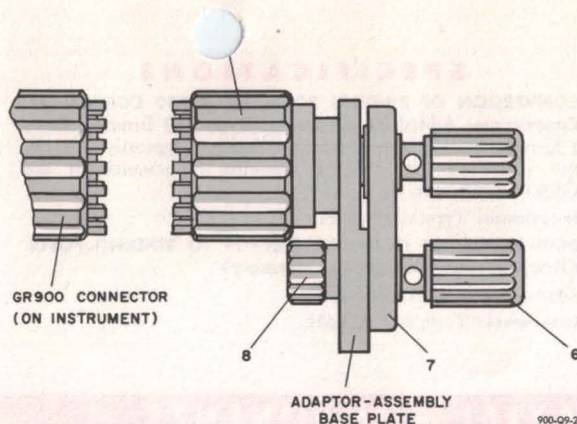

Figure 3. Conversion of a GR900 connector to binding posts
- a. Remove thumb nut (8) from the binding-post assembly (7).
- b. Snap binding-post assembly (7) into the rear contact fingers of the adaptor assembly (2). Binding-post assembly (7) should be positioned as shown in Figure 3, with binding post (6) protruding through the elongated hole in the base plate of the adaptor assembly (2). If binding post (6) is removed during this step, align the hole in the post body to correspond with the hole in the other binding post when it is reinstalled (see Figure 3).
- c. Reinstall and tighten thumb nut (8).